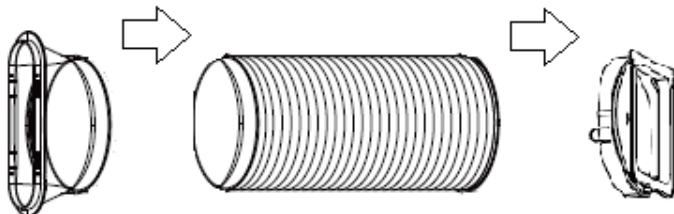

Figure 1
2. Insert the other end of the hose into the connector. (**Figure 1**)